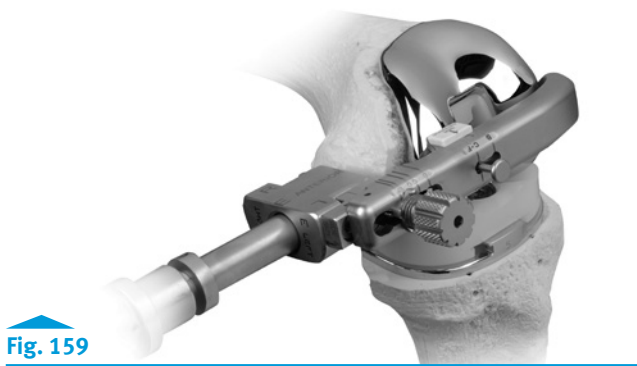
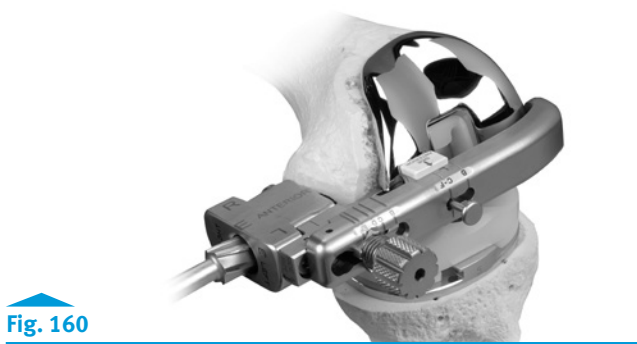

Fig. 159
Fig. 160
- Use the Trephine to drill an access hole into the medial side of the femur (Fig. 159). The Trephine has a built in stop to limit the depth of drilling. Use the Hand Rasp to remove any remaining bone or cement obstructing access to the hinge pin (Fig. 160).